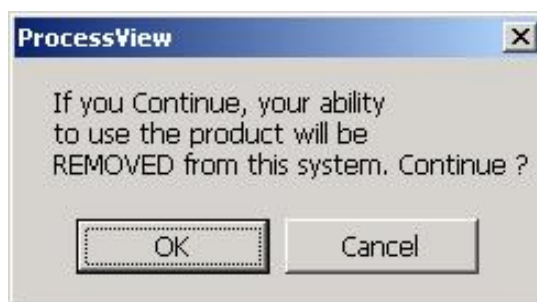

Figure 3.25. Continue With License Termination
24. If the license you are killing is a 30-day license or a permanent license, a message appears as shown in **Figure 3.25**.